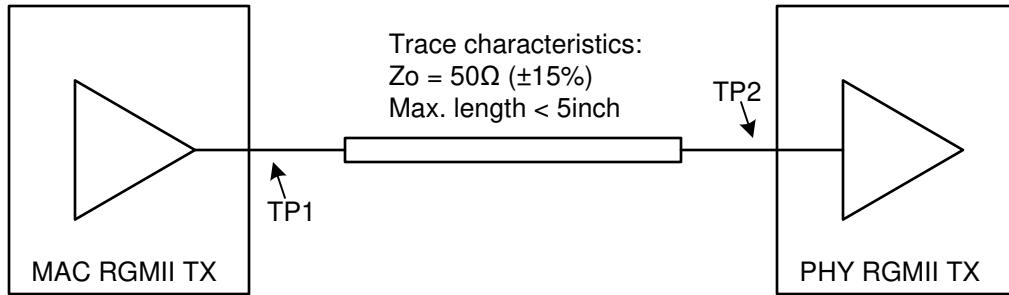

图 7-2. RGMII TX Requirements
- 图 7-2 shows a RGMII interface requirements for TX* signals. MAC RGMII driver output impedance should be 50 Ohm+/-20%.
- Skew for all RGMII TX signals at TP2, in 图 7-2, should be <±500ps.
- Signal Integrity at TP1 and TP2, in 图 7-2, should be verified with IBIS model simulation and ensured conformance to following requirements: